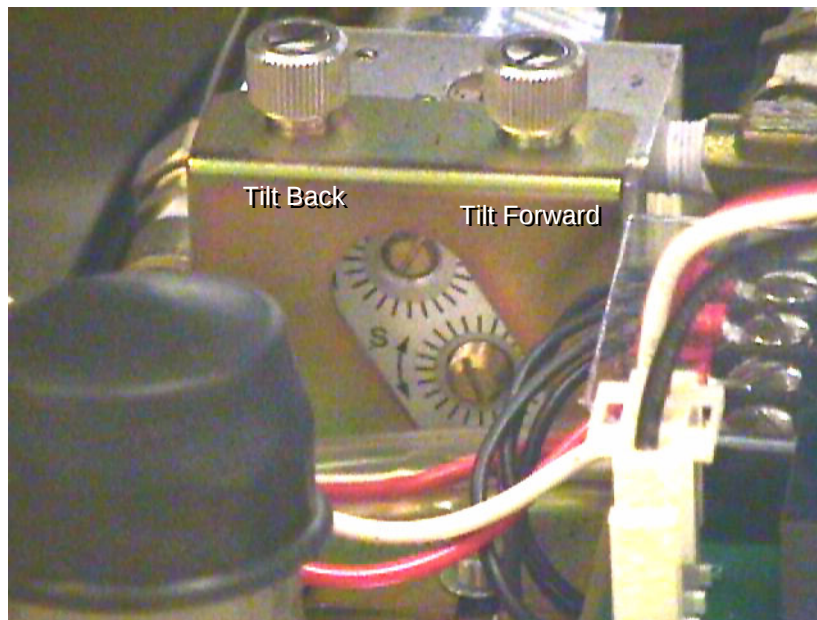

Figure 7-4 Tilt Speed Adjustment Screws
- 3.) From zero (0) degrees tilt, press and hold the tilt forward button,  until gantry display reads S25. Observe tilt speed using time piece.
- 5.) Adjust forward speed control valve for one (1) degree per second motion. See Figure 7-4.
- 6.) Adjust backward speed control valve for one (1) degree per second motion. See Figure 7-4.